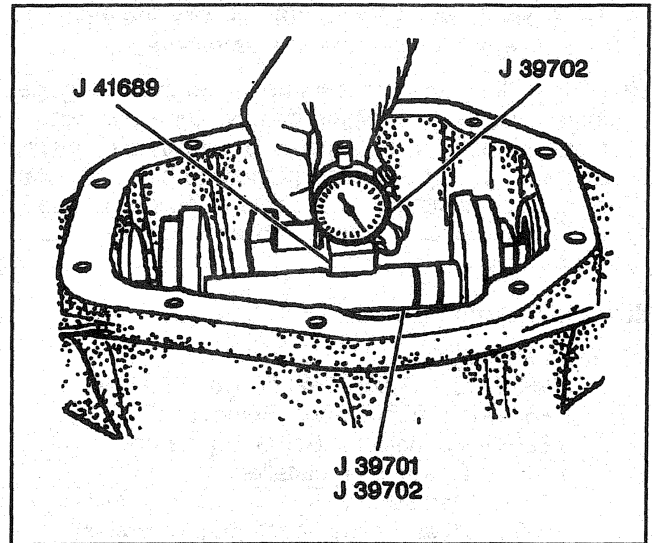

Figure 19—Dial Indicator On The Height Block
7. Place J 39704 onto the height block (Figure 19).